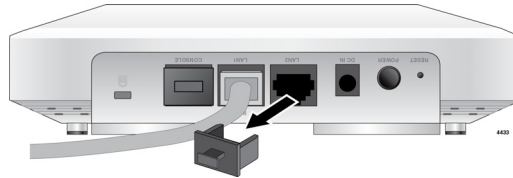

Figure 13. Removing Dust Plug from LAN2 Port
- a. Remove the dust plug on the LAN2 port. Refer to Figure 13.